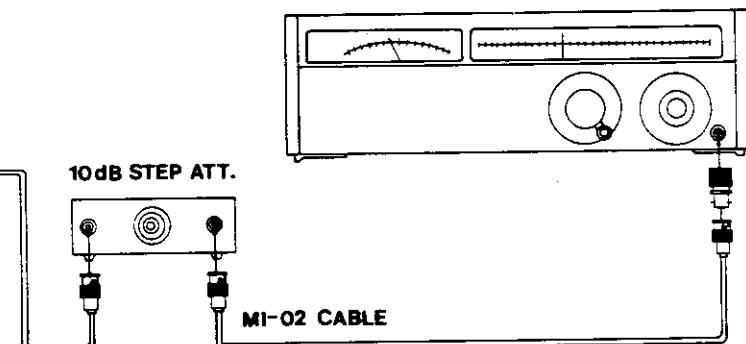

Fig. 4-8 LOG. AMP. Adjustment Setup
- (7) Adjust **FOCUS** if the focus is not distinct. A sharp focus may not be available in case the intensity is too strong, so adjustment of the intensity to appropriate level is also necessary.
- (8) If the trace is tilted relative to the vertical graticule line of the CRT, adjust **TRACE ALIGN** with a screwdriver as shown in [Fig. 4-8].
- (9) With accessory BNC-BNC cable (Stock No. **M1-02**) fitted to the N-BNC conversion adapter (**TR1613**), connect **CAL. OUT.** to **INPUT** on the front panel. The **MO-15** cable is used for **TR4132N**.
- (10) Warm up the instrument for about 30 minutes in this condition.